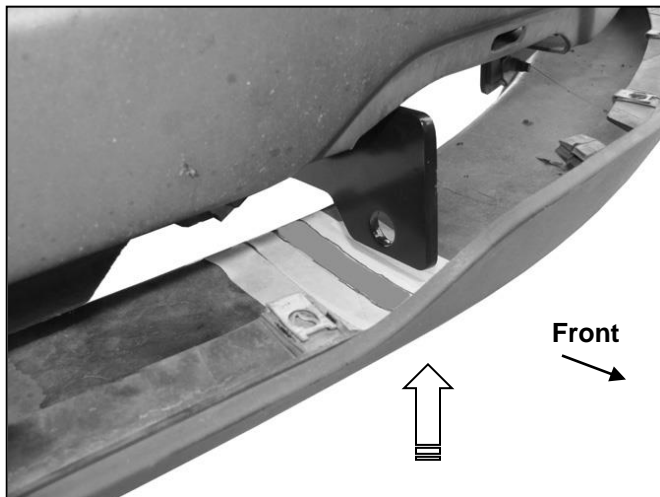

Fig 7
- e. Hold the bumper cover up to the vehicle and mark the location of the (2) Brackets onto the inside of the cover, (**Figures 7 & 8**). Carefully cut (2) slots through the cover wide enough to clear the (2) Brackets, (**Figure 9**). **IMPORTANT:** Do not cut through the top or bottom edge of the cover. Reinstall the cover with the factory hardware.